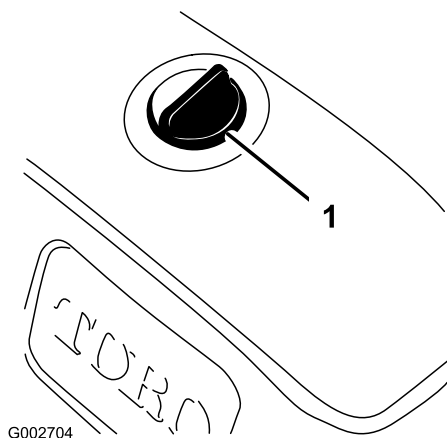

Figure 43
3. Clean the area around the hydraulic-reservoir cap to prevent debris from entering the tank (Figure 43).